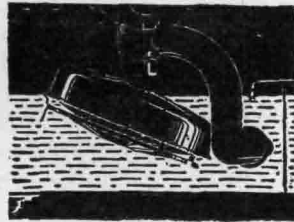

FIG. 11-28. Floating oil intake.
4. *Floating oil intake.* In many engines a floating oil intake is used through which oil is pulled to the oil pump (Fig. 11-28). As